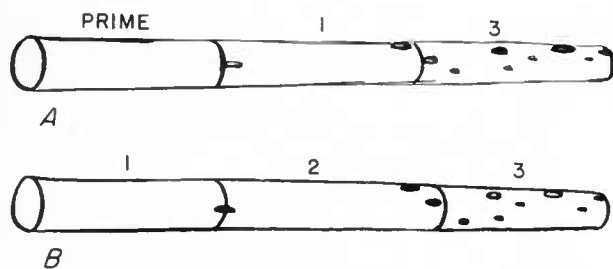

Figure 156.—A, Cut so defects are as near ends of logs as possible. B, Otherwise, grade of logs may be lowered.
3. Defects should be grouped in one log if possible. If this cannot be done, keep them as near the ends of the logs as possible (fig. 156). This often